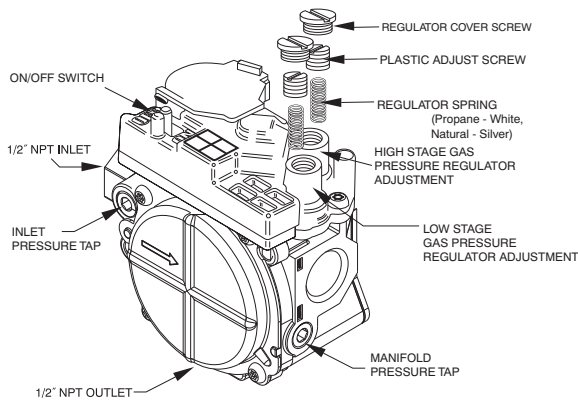

Fig. 6 - Two-Stage Gas Valve
12. For 2-stage 40,000 Btu/hr and 60,000 Btu/hr only! Remove the burners from the rack, save the screws. Remove the snap ring from the end of each burner. Install burner insert in the end of each burner with the flat sides of the square vertical and horizontal. Replace the snap ring to retain burner insert (see Fig 6 for correct orientation). Replace the burners in the rack using the saved screws, making sure closed crossovers of burners are at each end.
17. Remove regulator cover screws for both high and low stage gas regulators (see Fig. 6). Save regulator cover screws.
18. Using a screwdriver, remove plastic adjust screws from both high and low stage gas regulators (see Fig. 6). Save plastic adjust screws.
19. Remove regulator springs (silver) from both high and low stage gas regulators (see Fig. 6). Discard regulator springs.
20. Install propane gas regulator springs (white) shipped with this kit. One into the low stage gas regulator and one into the high stage gas regulator (see Fig. 6).
21. Install plastic adjust screw into the high stage gas regulator. turn clockwise 13.5 turns (see Fig. 6).
22. Install plastic adjust screw into the low stage gas regulator. turn clockwise 9.5 turns (see Fig. 6).
32. Fire unit and verify proper ignition and proper sequence of operation (Table 2). See Table 4 for proper low stage and high stage manifold pressure settings for your unit. Adjust the gas valve setting for high and low stages by turning the plastic adjustment screws clockwise to increase pressure and counter-clockwise to decrease pressure for the respective stages. Refer to Table 3 for required rated heating input rates. Replace regulator cover screws when finished (see Fig. 6).